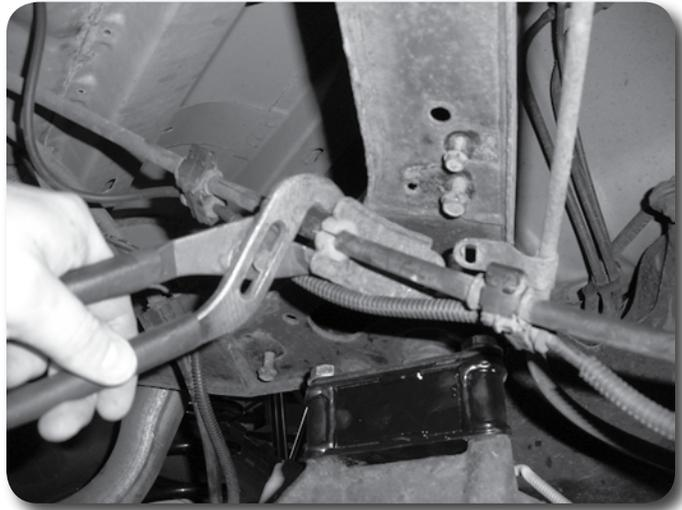

Figure 12A
5. Using a large pair of pliers, squeeze the plastic insert in the parking brake cable brackets and remove the bracket from the cable. Figure 12A, 12B Remove the plastic "C" from the cable.